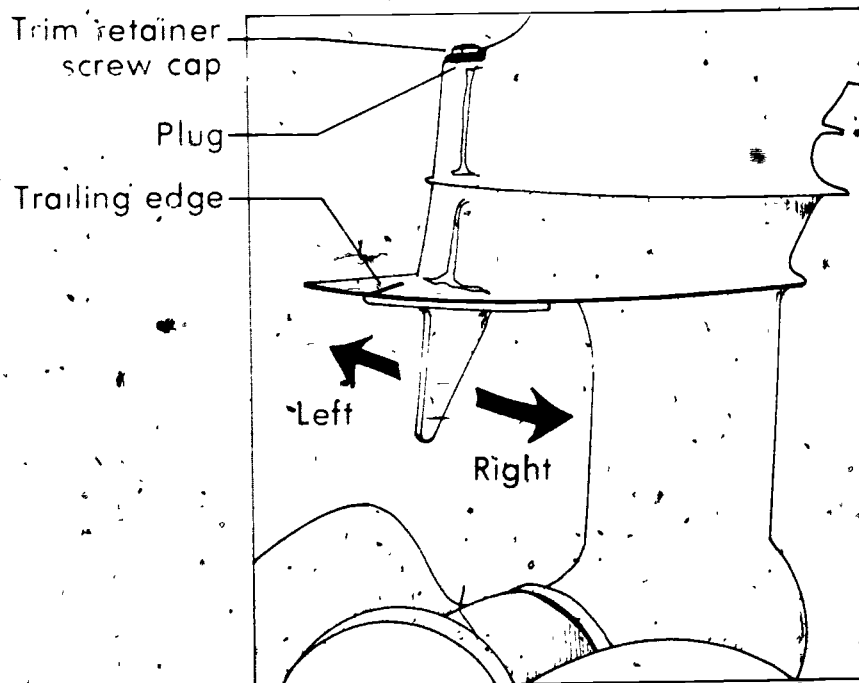

FIGURE 1
- G Check rubber slip clutch using a torque wrench and compare with service manual for torque specification (Figure 1)
A Mark trailing edge location on cavitation plate and remove plug which is located directly above trim tab (Figure 1)